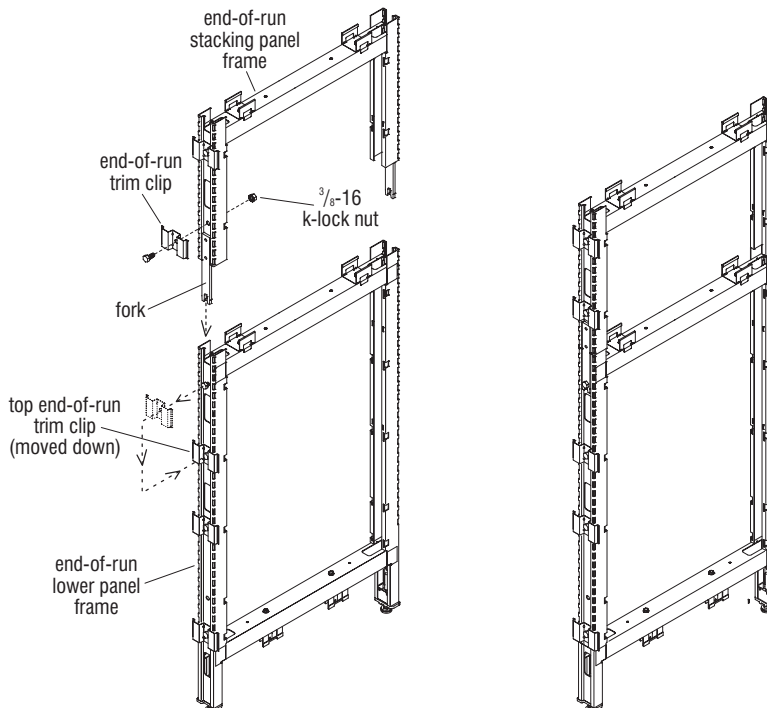

Figure 19 - End-of-Run Clips - with Stacking Panel Frames or Preconfigured Segmented Panels with Glass or Steel Tops
**Important:** If an “end-of-run trim clip” was previously installed to the top of the lower panel, it must be removed and re-installed down one hole location so the fork of the stacking panel can be secured. To gain access, one tile must be removed from the end panel. (See “End-of-Run Trim Clip Installation” on page 18, Figure 19).
**Important:** If an “end-of-run trim clip” was previously installed to the top of the lower panel, it must be removed and re-installed down one hole location so the fork of the stacking panel can be secured. (See “End-of-Run Trim Clip Installation” on page 18, Figure 19).
2. For "stacking panel frames" (shown Figure 19), or "preconfigured segmented panels with glass or steel tops" (not shown, but similar), end-of-run trim clips install to the upper panel (see "Upper Panel Frame at Height Change" chart below for quantity). For the "end-of-run lower panel frame" (Figure 19), the uppermost end-of-run clip must be re-installed one hole location below the top mounting hole. This is so the "fork" of the stacking panel frame can install to the end of the lower panel frame. Loosely insert a  $\frac{3}{8}$ -16 x  $\frac{3}{4}$ " hex head bolt to the top mounting hole of the lower end panel frame, then twist on a  $\frac{3}{8}$ -16 k-lock nut. The nut must be positioned inside the panel frame and flat washers are not required.
3. Slide/tap the stacking panel frame down at end of the panel frame as illustrated, with the notch of the fork behind the  $\frac{3}{8}$ -16 x  $\frac{3}{4}$ " hex bolt. Tighten the hex bolt and k-lock nut to secure (Figure 19).